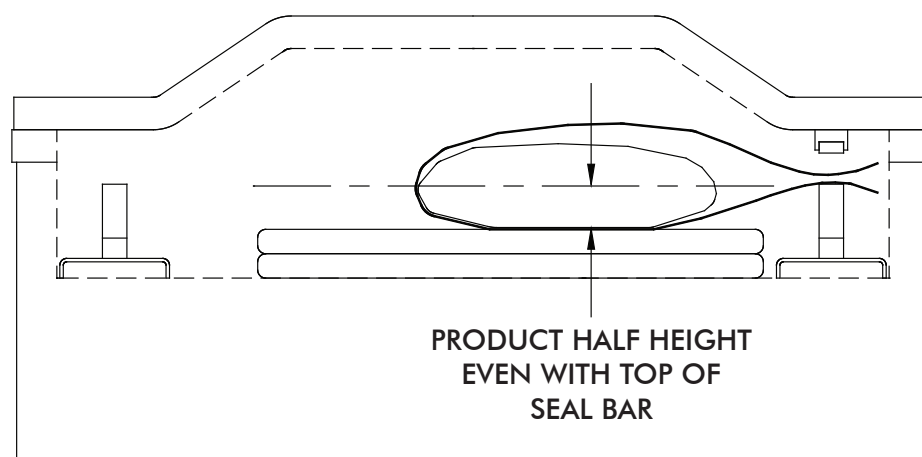

Figure 3.1
- Maintain an equal amount of the product above and below the seal bar (see Figure 3.1 below on use of filler plates).